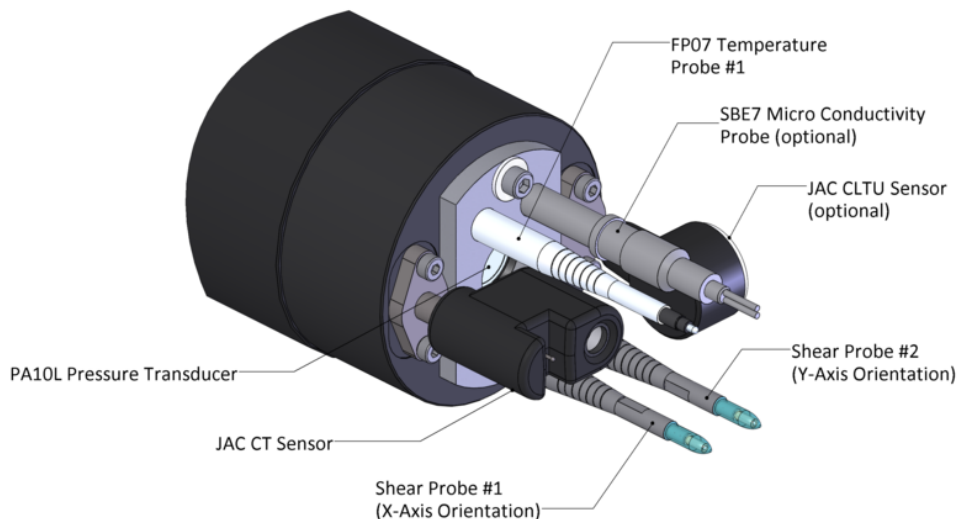

Figure 3: MicroCTD Sensors
- x-axis: If your instrument is sitting horizontally on a table with the shear probes (Figure 3) closest to the table and the CT sensor located to the left (if you are looking at the front bulkhead), the x-axis is the direction pointing upward.
The front bulkhead of the MicroCTD contains all the external sensors on the instrument (Figure 3). The specifications for each sensor are detailed in Table 2 and necessary calibration information is provided in the Calibration Report that is shipped with your instrument.